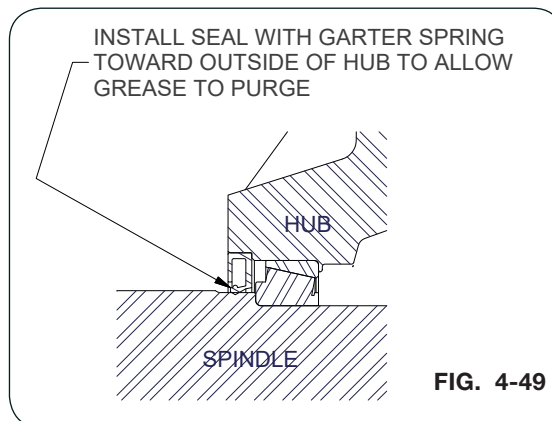

FIG. 4-49
6. Remove seal and inspect bearings, spindle washer, castle nut and cotter pin. Replace if necessary. Pack both bearings with NLGI#2 EP approved grease and reinstall inner bearing. Install new seal with garter spring toward the outside of the hub to allow grease to purge. Using a safe lifting device rated for 200 lbs., install hub assembly onto spindle. Install outer bearing, spindle washer and castle nut. (Fig. 4-49)